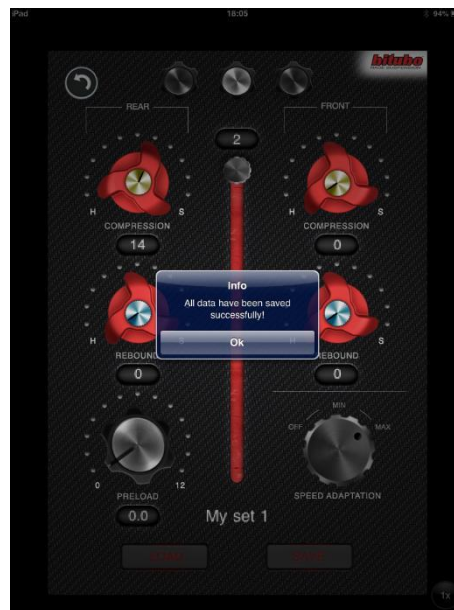

Figure 8 - Saving a customised calibration
- save and load your calibrations: at the end of both operations a confirmation message is displayed (Figure 8 and Figure 9).